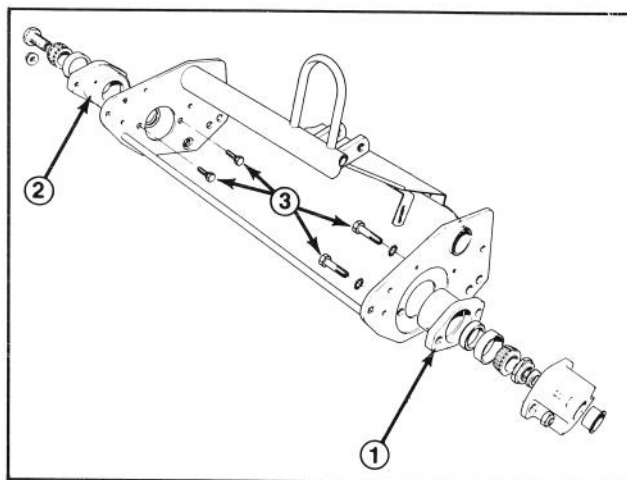

Figure 6
6. On each end, unscrew the machine screws securing the reel bearing housings to allow the screw heads to be cut off. Cut off the screw heads (Fig. 6). From the outside of the unit, back the remainder of the screws out away from the reel with a screwdriver or pliers.